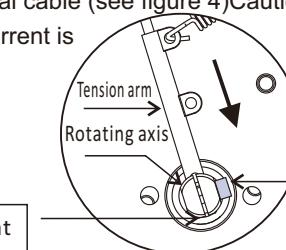

figure3
④ Installation and commissioning
Step 2. Loosen the fastening nut on fixing base of tension arm and insert tension arm into rotating shaft (see figure 3), and then tighten the nut. The end of tension arm has to be inserted at the same level with the exit of rotating axis (see dotted line in figure 3)